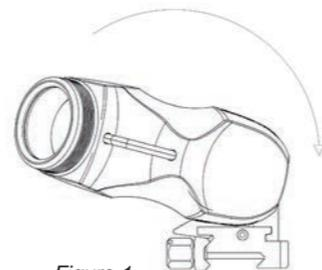
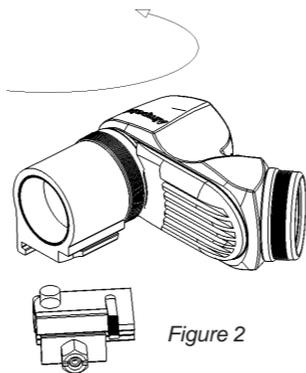
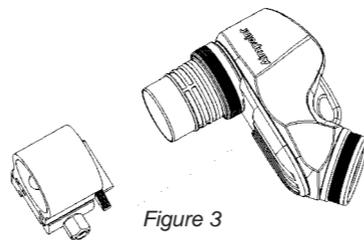

Figure 1
Figure 2
Figure 3
Once the CEU is mounted on the weapon, the CEU can rotate around its axis and is therefore suitable for both right-handed and left-handed corners, as well for aiming over and under obstacles, vehicles or walls (see figure 1).
To remove the CEU attachment from the weapon, press down on the Locking Bar (1) twist the CEU counter-clockwise, and then lift the unit off of the mount post (see figure 2). If the situation requires immediate removal of the CEU, take a firm grip around the body of the CEU and pull it straight backwards out of the mounting ring. (see figure 3).
Maintainability	Two o-rings (7) shall be kept lubricated to enable easy attachment/detachment of the CEU from the mounting Ring (Fig.3) and easy rotation of the CEU within the ring (Fig.1).